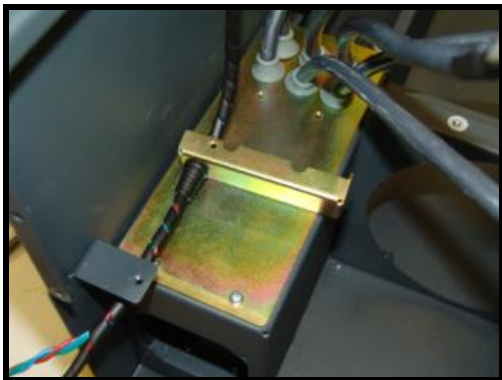

Figure 7.3.23
- 7) Remove the 2 screws (**M4x8** DIN-7895H) which hold the fixing bar for the fan cables to the chassis (see figure 7.3.23).
- 3) Hold the fixing bar of the fan cables with their 2 screws (**M4x8** DIN-7895H) (see figure 7.3.23).